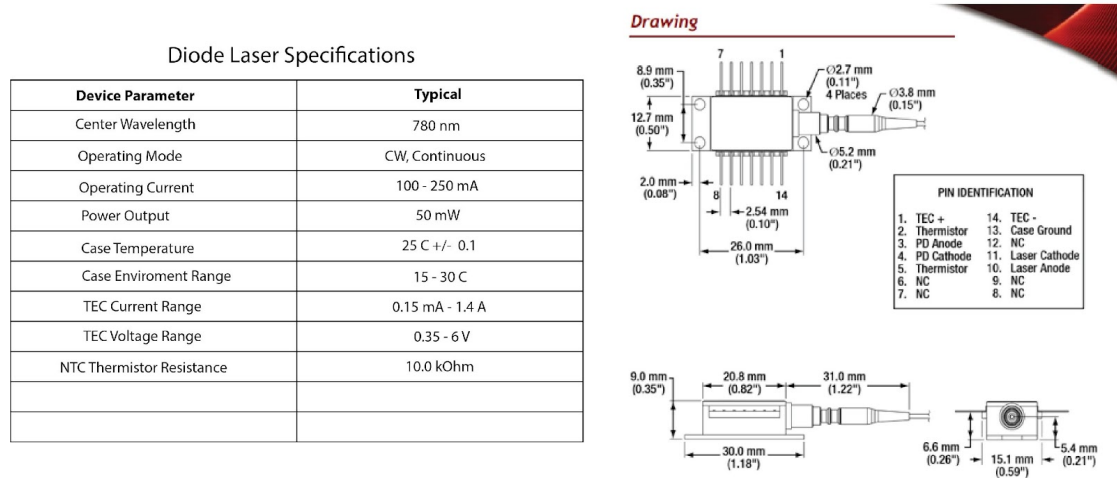

Figure 5.3 Laser Diode Specification
5.3. **Laser Diode Driver** – Laser diode module is a commercially sourced, single frequency diode laser module in a dual, inline butterfly type package. Figure 5.3 illustrates the device and critical specifications.